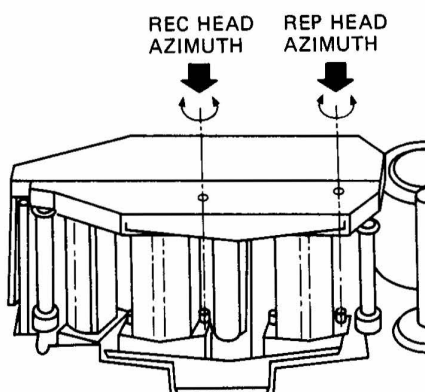

Figure 4-17 Record and Reproduce Azimuth Adjustment Screws
Refer to Figure 4-17 for the location and Reproduce Azimuth Adjustment screws.
- (2) Thread the MX-80 with an appropriate Reproduce Alignment Tape for the L speed setting. Refer to Section 4.2.1 for suggestions.
- (3) Connect one vertical input of the oscilloscope to the CH2 Output connector. Connect the other vertical input of the oscilloscope to the CH23 (CH15 on 16 channel versions, CH31 on 32 channel versions) Output connector. Adjust the oscilloscope vertical sensitivity so that the output signal from the MX-80 produces a usable display on the oscilloscope.
- (4) Insert the 2.5 mm hex key through the right hand hole in the head cover to the azimuth adjustment screw below. Locate and play the 1 kHz portion of the reproduce alignment tape. Adjust the oscilloscope controls until at least two complete cycles are displayed for each channel.
- (5) Adjust the Reproduce head azimuth adjustment screw (Figure 4-17) until the two signals displayed on the oscilloscope are in phase.